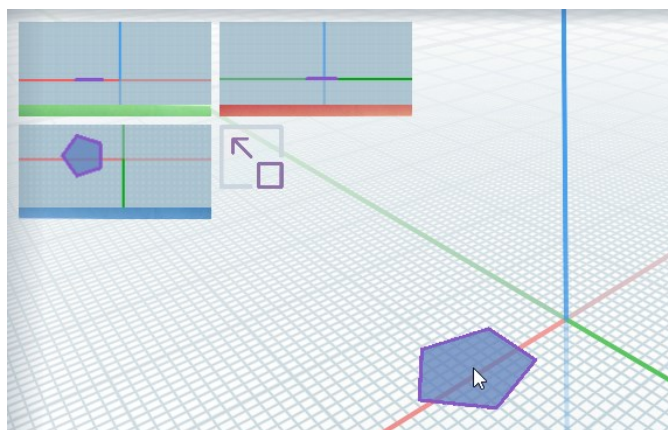

Figure 58 – Creating a 2D shape in the XY plane by elongation
- in perspective view — in the XY plane (Figure 58);